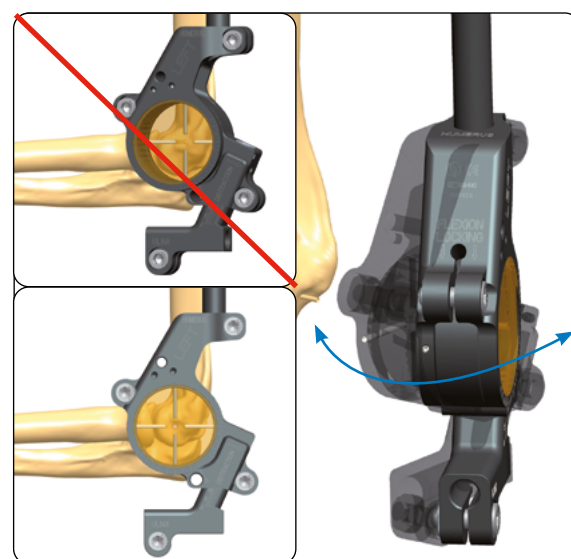

Fig. 9
- Rotate the Elbow Hinge until perfectly aligned with the center of the elbow joint in the lateral view (**Fig. 9**).